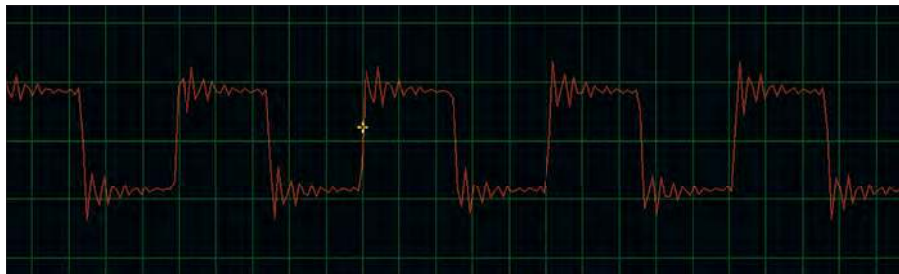
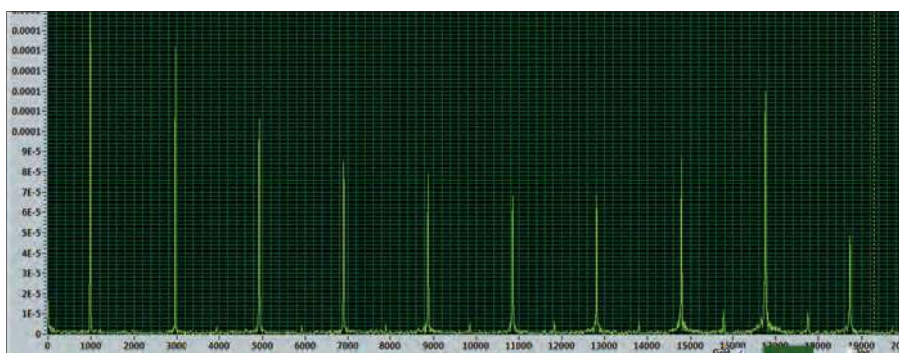

Fig.16. Square wave with low-pass filter resonance.
Fig.17. Harmonic spectrum of square wave with low-pass filter resonance.
- Resonance is where the harmonics at the cut-off frequency are boosted. Higher resonance gives a ringing type sound (Fig.16) and a boost to the higher harmonics (Fig.17).